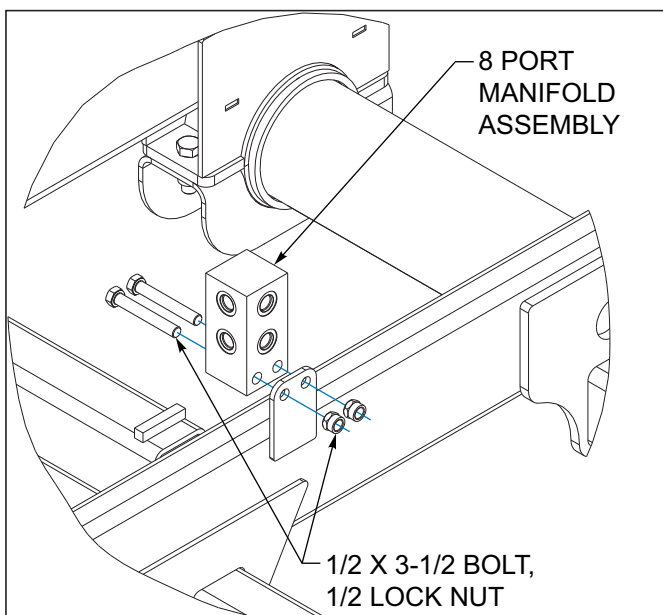

Figure 3-34: 8 Port Manifold Assembly
1. Model 8530-19'-35' install the lift 8 port manifold at the rear center of the center frame to the welded mount plate using 1/2 x 3-1/2 bolts and 1/2 lock nuts *See Figure 3-34*.